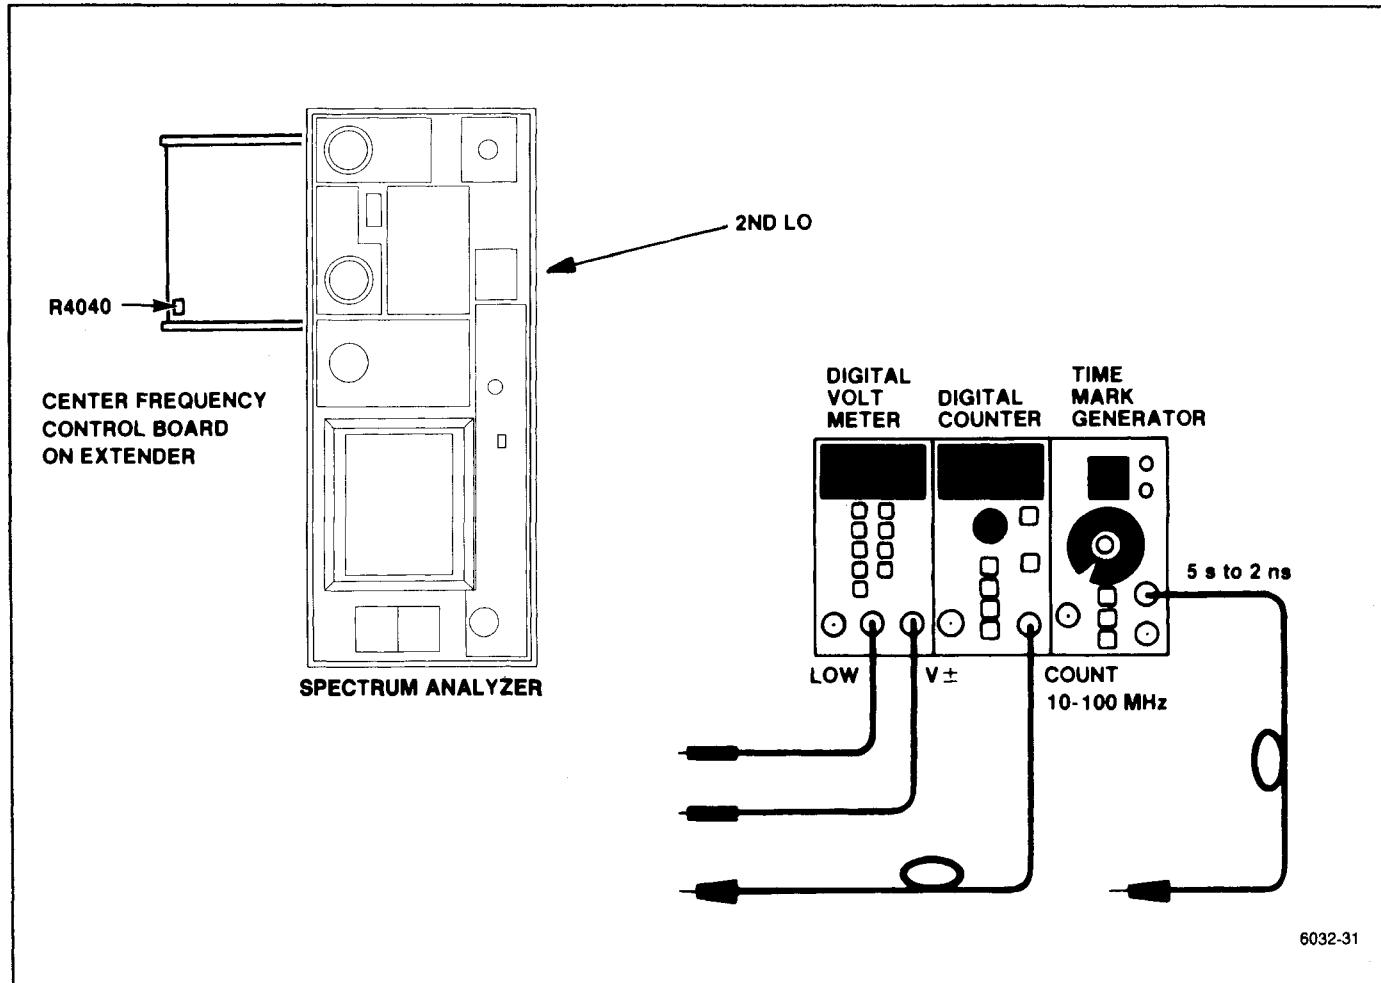

Figure 6-23. 2182 MHz 2nd LO Phase Lock adjustment setup.
a. Test equipment setup is shown in Figure 6-23. Remove and install the Center Frequency Control board on an extender board.